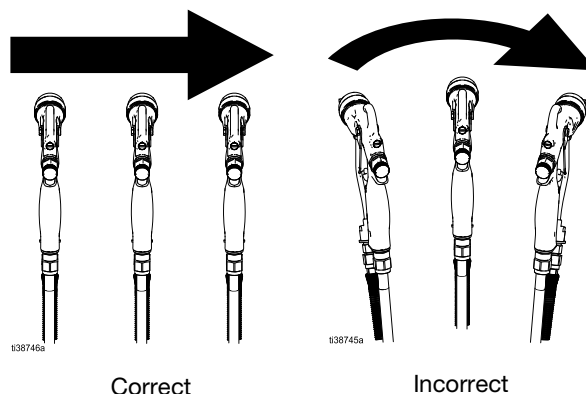

Fig. 15: Spray techniques
4. Spray smooth, even, and parallel strokes. Overlap each stroke by 50% for even coverage. **Do not arc the strokes.** Arcing causes uneven coverage. See FIG. 15.